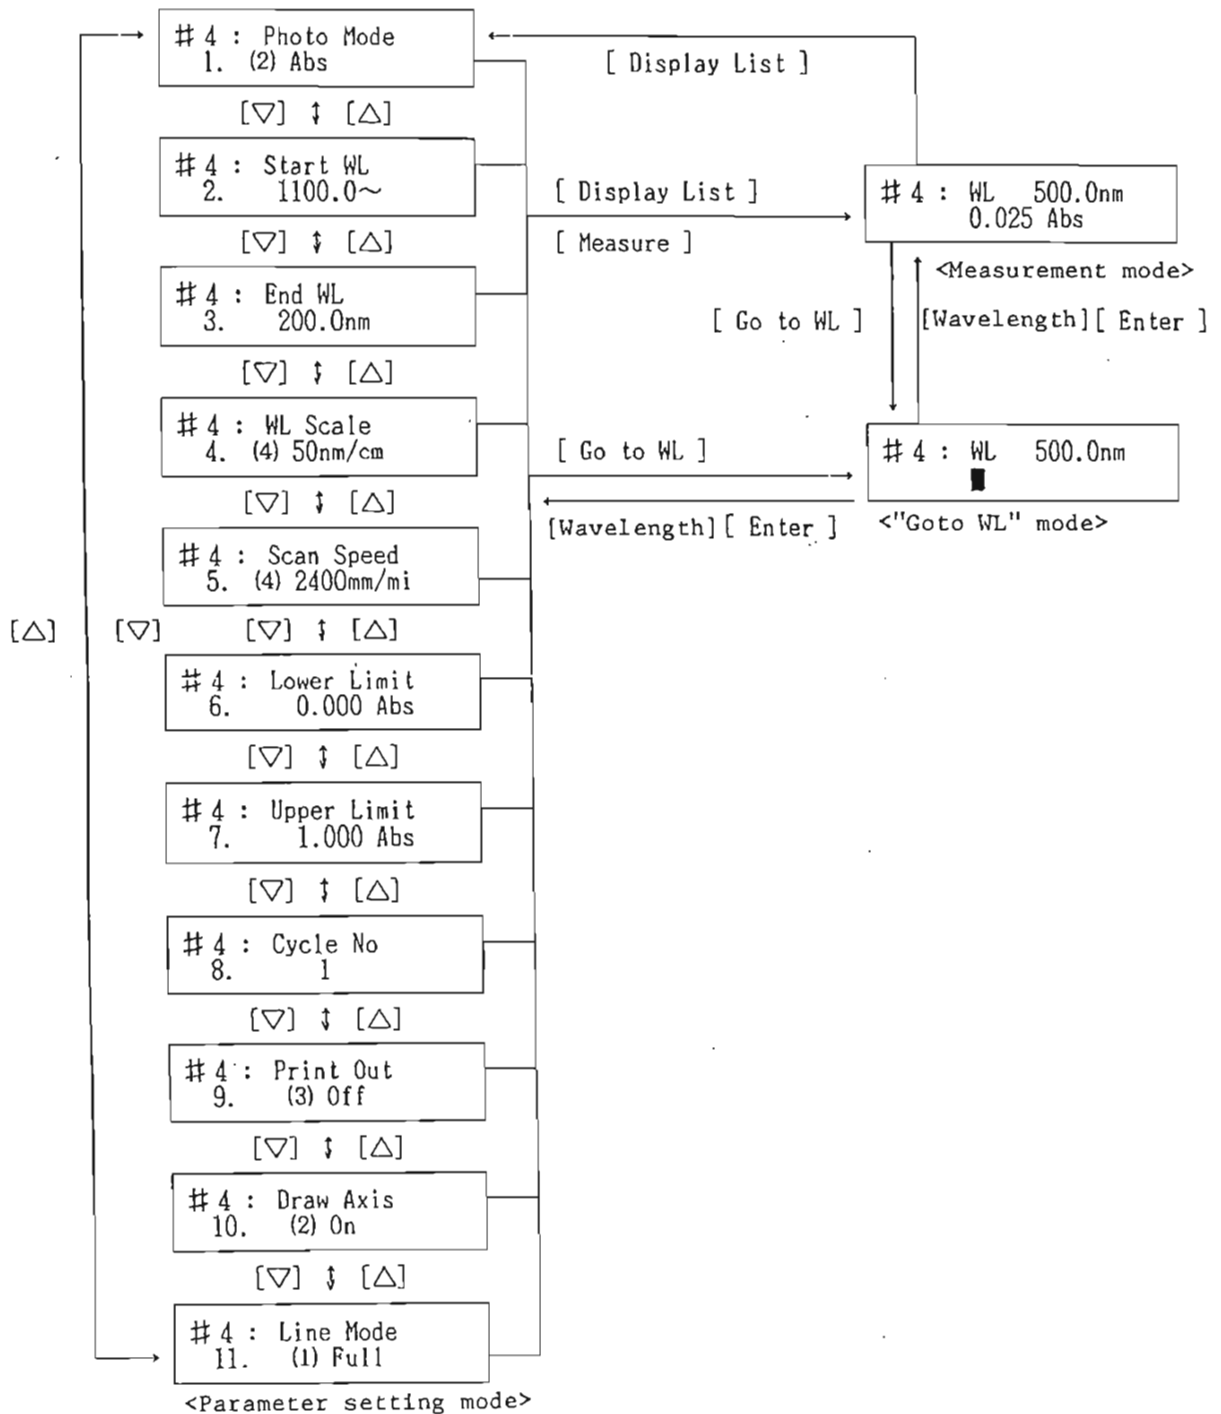

Fig. 6-11 LCD display and key operation in Method 4.
Pressing keys [Method][4][Enter] causes the parameter setting mode in Method 4. Fig. 6-11 shows the LCD display and key operation in Method 4.
- (2) Check and change the parameters in the parameter setting mode in Fig. 6-11. Press the cursor key [ $\Delta$ ] or [ $\nabla$ ] to change the LCD display as shown in the figure and check the displayed value. For how to change, refer to Section 7.
NOTE: The measurement parameters are set as shown in Fig. 6-11 as standard.